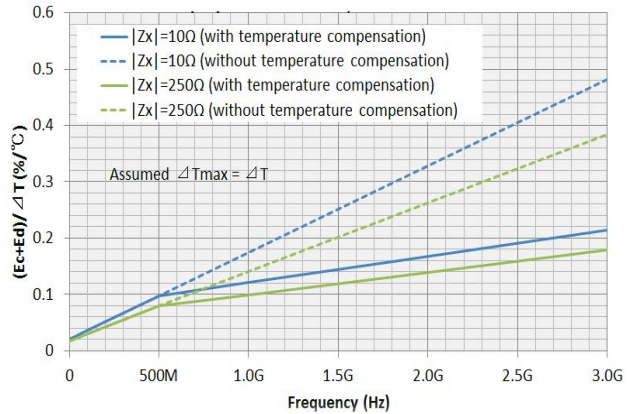

Figure 35. Typical frequency characteristics of temperature coefficient,  $(E_c+E_d)/\Delta T$ , when  $|Z_x|= 10 \Omega$  and  $250 \Omega$ 2.
1. See graphs in Figure 35 for the calculated values of  $(E_c+E_d)$  exclusive of the hysteresis errors  $E_{ah}$ ,  $Z_{sh}$  and  $Y_{oh}$ , when measured impedance is  $10 \Omega$  and  $250 \Omega$ .